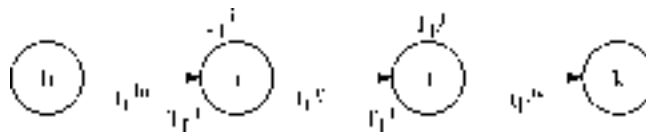

Figure 15.25
- (viii) Another type of float is “Independent Float”. Referring to figure 15.25. Consider the activity $i - j$. Activity $h - i$ is predecessor to $i - j$ and activity $j - k$ is a successor to activity $i - j$ and T_L^i is to latest finish time of activity $h - i$.